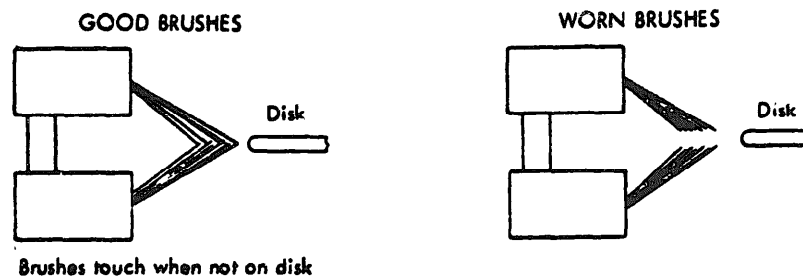

Figure 6-19. Disk Brush Condition
**Check that brushes are not worn to extent that they fail to be deflected as they pass over the disk (See Figure 6-19). If worn, they should be changed.**
- Slide on new brushes making sure that right and left hand brushes are in proper position and bristles are making contact per Figure 6-19.